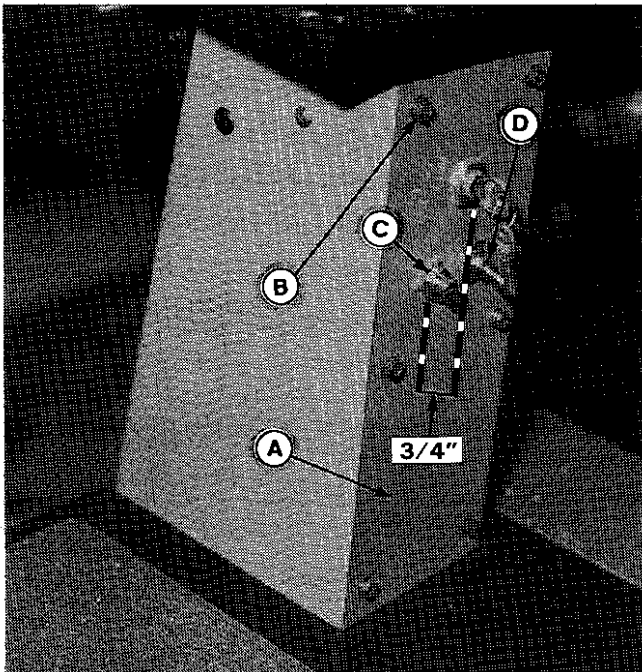

Figure 5.
1. Remove the dash plate (A, figure 5) by removing six screws (B). Disconnect plug from ignition switch.
2. Drill a 11/16 inch hole in the dash plate to install horn button (C, figure 5) (shown installed). Measure 2 inches down from center of ignition switch. Then measure 3/4 inch to left. Drill hole at that point.